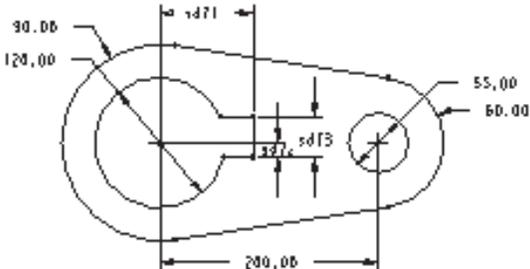

Figure 2-25 Sketch after dimensioning the keyway
2. Dimension the keyway as shown in Figure 2-25.